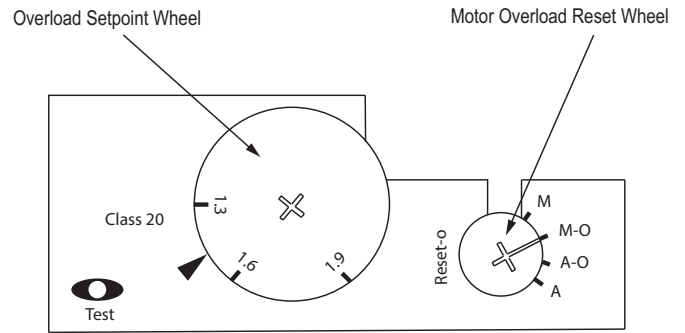

Fig. 23 – Motor Starter Setting
1. On the starter, adjust the Motor Overload to match the **FLA Rating** of the installed motor by turning the Overload Setpoint wheel to the appropriate value. See Fig. 23. Evaporator and condenser motor FLA Ratings are listed in Table 22.